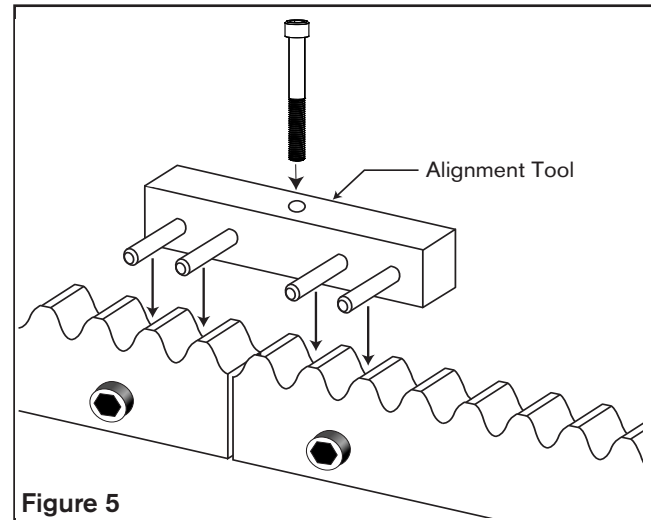

Figure 5
6. Carefully mount the Alignment Tool between the two racks while being careful not to damage the rack. (Refer to Figure 5).
8. Adjust the second rack so that the alignment tool pins rest evenly in both racks and are in full contact with the side of both racks. (Refer to Figure 5)